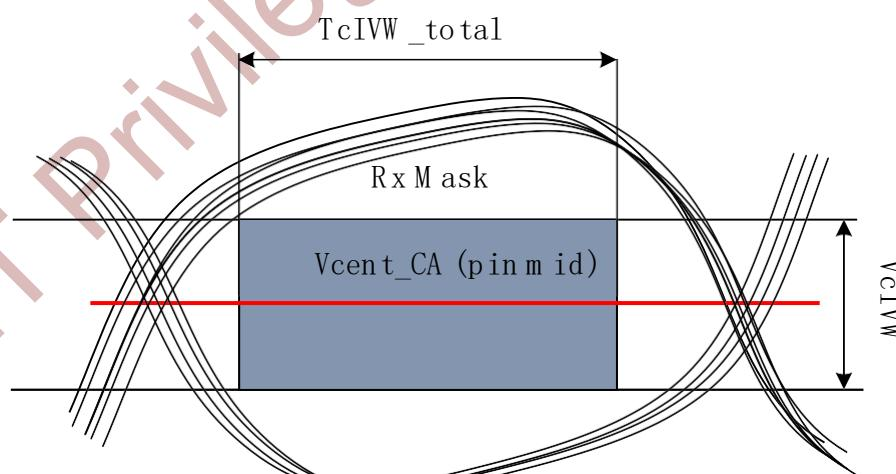

Figure 8-21 CA Receiver(Rx) Mask
The command and address(CA) including CS input receiver compliance mask for voltage and timing is shown in Figure 8-21. All CA, CS signals apply the same compliance mask and operate in single data rate mode.